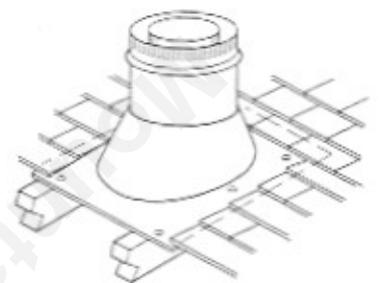

Figure 19
G. Extend the vent sections through the roof structure. Install the roof flashing over the vent section and position such that the vent column rises vertically (use carpenter's level) (Figure 19). Nail along perimeter to secure flashing or adjust roofing to overlap the flashing edges at top and sides only and trim where necessary. Seal the top and both sides of the flashing with waterproof caulking.